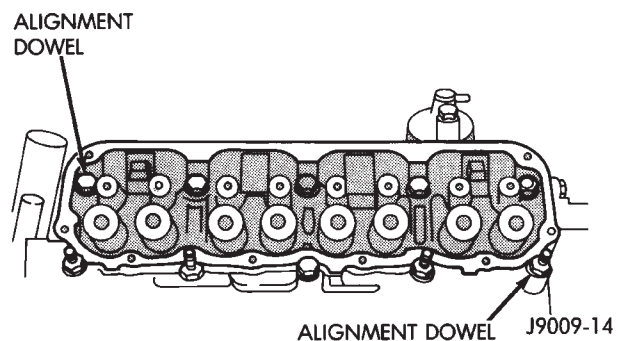

Fig. 5 Alignment Dowel Locations
- (2) Install one dowel in bolt hole No.10 and the other dowel in bolt hole No.8 (Fig. 5).